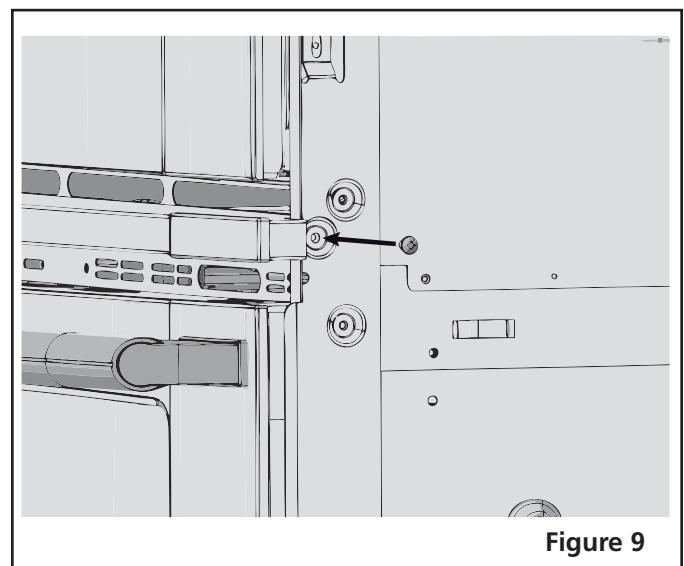

Figure 9
- 8 Install now the center trim using the screws supplied with the unit, on both sides (Figure 9).